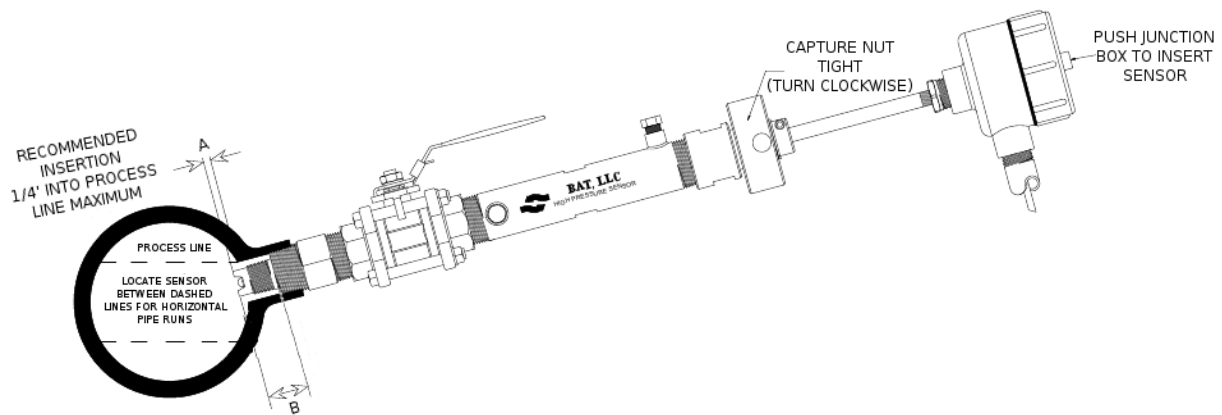

Figure 3. Hot Tap Assembly (Fully Inserted, Valve Open)
- The sensor tip's insertion depth (A measurement, Figure 3) should be targeted for a depth just inside the process pipe wall (approximately 1/4").
- Sensor should extend between 1" (minimum) and 4.5" (maximum). Refer to B measurement in Figure 3.
NOTE: For completely assembled hot-tap retraction assembly, ensure that the ball valve (#4) is in the open position and that the hot-tap assembly is in the fully inserted position (Figure 3).
1. With the hot tap assembly in the fully inserted position (Figure 3), measure the distance from the exposed end of the guide nipple (#3) to the top of the capture nut assembly (#7). Record this value.
2. Insert the sensor through the open ball valve (#4) by gripping the tee handles and sliding the capture nut assembly (#7) up against the extraction cap (#6). NOTE: The junction box (#12) may be used as an aid to push the sensor into position. See Figure 3.